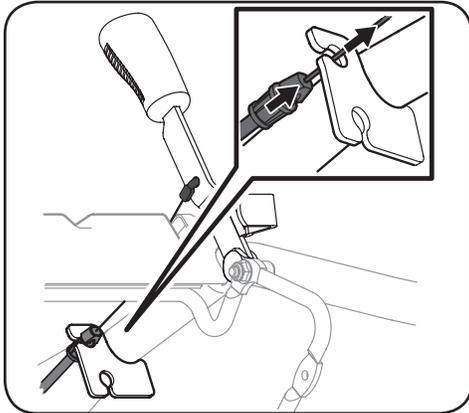

Figure 3-6
3. Snap the cable tab into place in the upper hole on the handle cable bracket. See Figure 3-6.